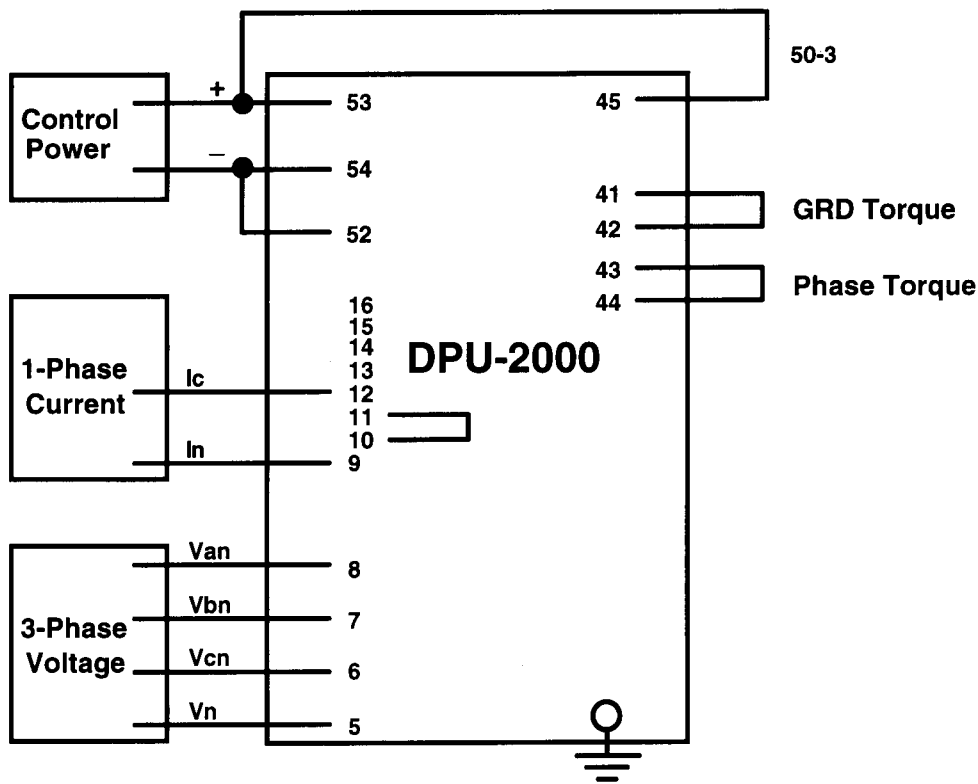

Figure 32. Test Circuit for 50P-3 and 50N-3 Functions
- b. Connect the DPU-2000 as shown in Figure 32.